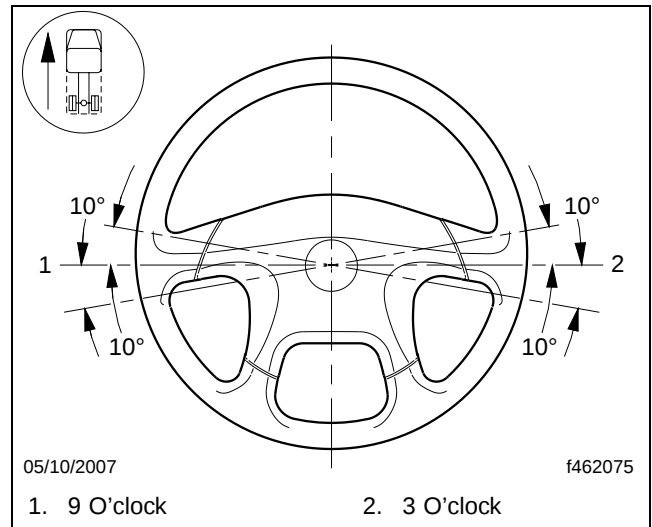

Fig. 12, Steering Wheel Centered
40. Make sure that the steering wheel is within 10 degrees of center as shown in **Fig. 12**. If it is not, remove and center the steering wheel.